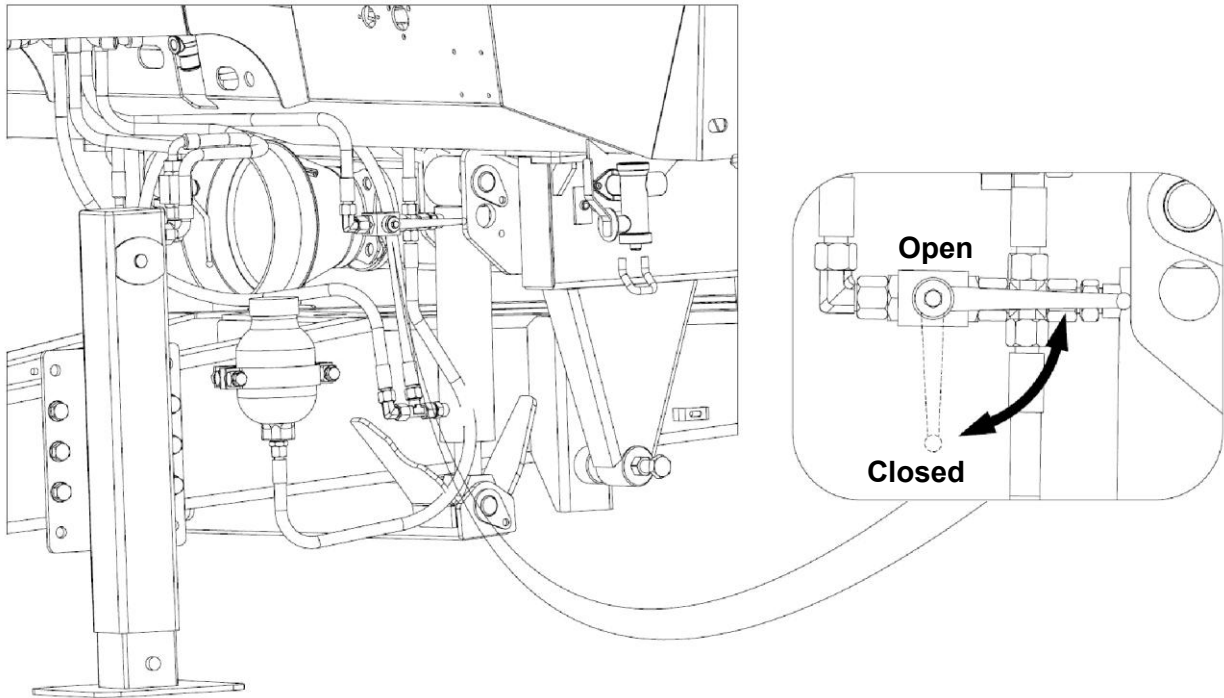

Figure 19. Hydraulic control (shut-off) valve for the drawbar suspension
The pre-assembled Spreader is designed to be coupled only with the lower hitch of the tractor. The hitch (2) features the function of changing the height of the drawbar eye (1) in relation to the ground – see Figure 19. This can be done with hydraulic rams (3), which also act as drawbar dampers. You can further adjust the range by re-position the ram from mounting hole (A) to (B). To adjust the drawbar eye to the correct height in relation to the ground and the tractor's hitch, use the tractor's external hydraulics to extend or retract the hydraulic rams (3). The drawbar is also set at the right height by levelling the Spreader, which ensures an even distribution of the spreader's weight on the axles. After coupling the spreader, make sure that it is properly levelled, both with and without load. Make also sure that the a minimum stroke of the rods of the drawbar damping rams is 30–50 mm. Maintaining this distance ensures that the drawbar suspension works properly. If the rods of the rams are fully retracted (with the drawbar eye in its highest position), the drawbar suspension will not function, which is
unacceptable. Next to the right-hand drawbar damping ram, there is a hydraulic valve (Figure 19), which is used to shut off the oil supply whilst connecting and disconnecting the hydraulic hoses of the hitch (drawbar suspension).